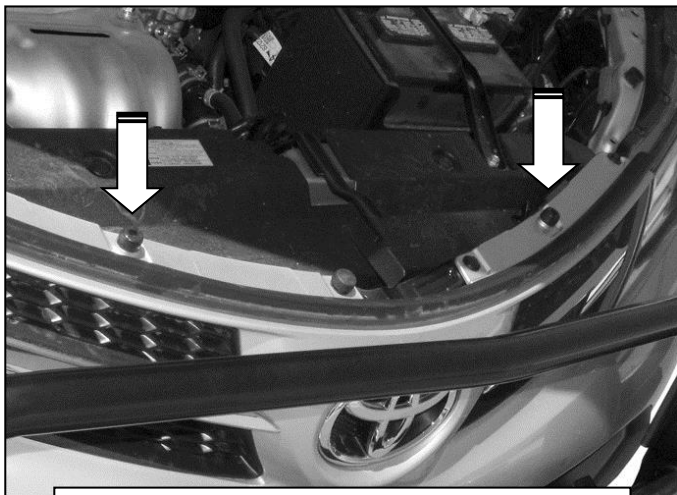

Fig 5A
Remove the plastic clip attaching the grille to the steel crossmember. Select (1) Bent Top Support Bracket, (**Figure 5A**). Cover any surface on the Bracket with removable tape, (masking tape for example), that may contact the vehicle to protect the finish.